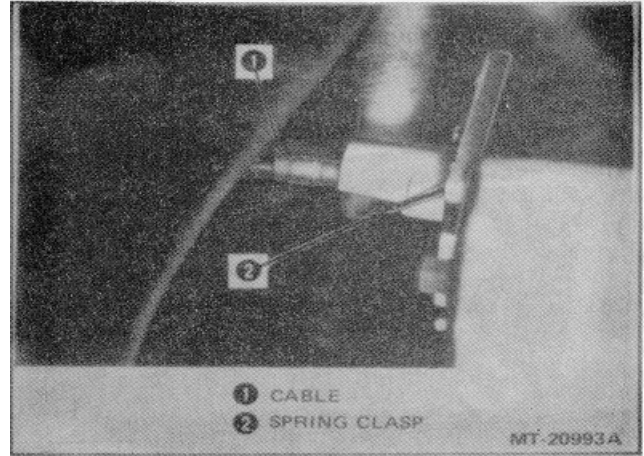
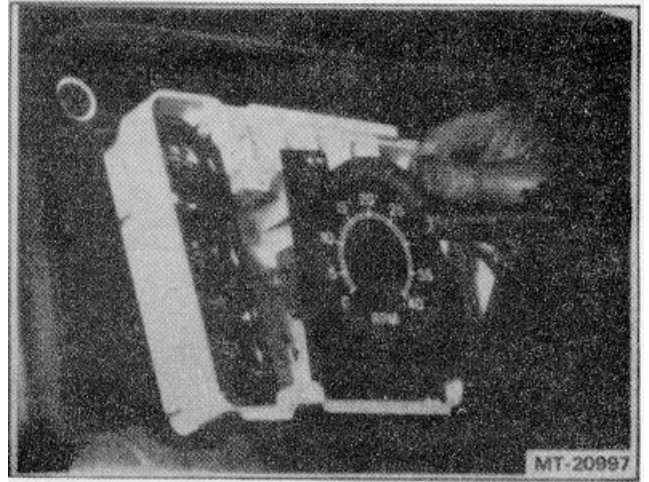

Figure 4- Releasing Speedometer or Tachometer Cable
Figure 8 Removing Tachometer
4. Disconnect flexible cables from back of speedometer and tachometer by pressing down on quickconnect spring clasp (Figure 4).
3. Speedometer and tachometer (Figure 8) are also front serviceable and can be removed from cluster without disconnecting cables. (If cables are to be removed, these are quick-disconnect from rear of cluster, Figure 4.)
2. Depress spring clasp on back of speedometer or tachometer and release cable (Figure 4).